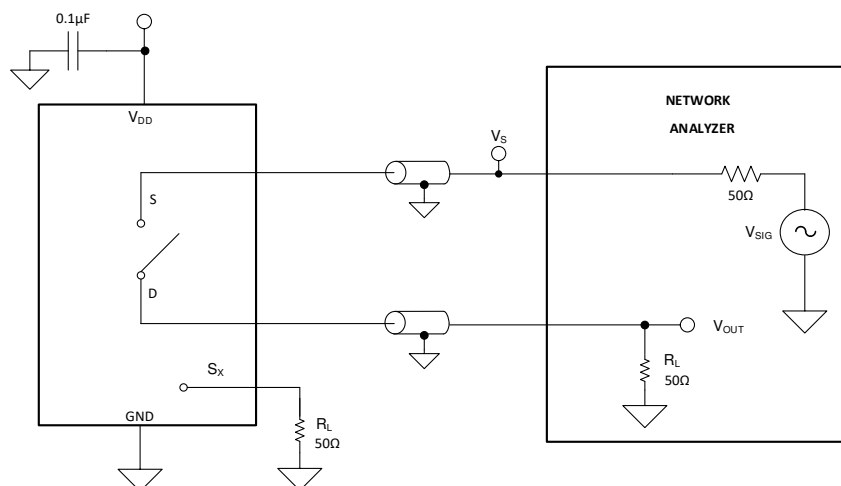

Figure 7-8. Off Isolation Measurement Setup
Off isolation is defined as the ratio of the signal at the drain pin (D) of the device when a signal is applied to the source pin (S_x) of an off-channel. Figure 7-8 shows the setup used to measure, and the equation to compute off isolation.